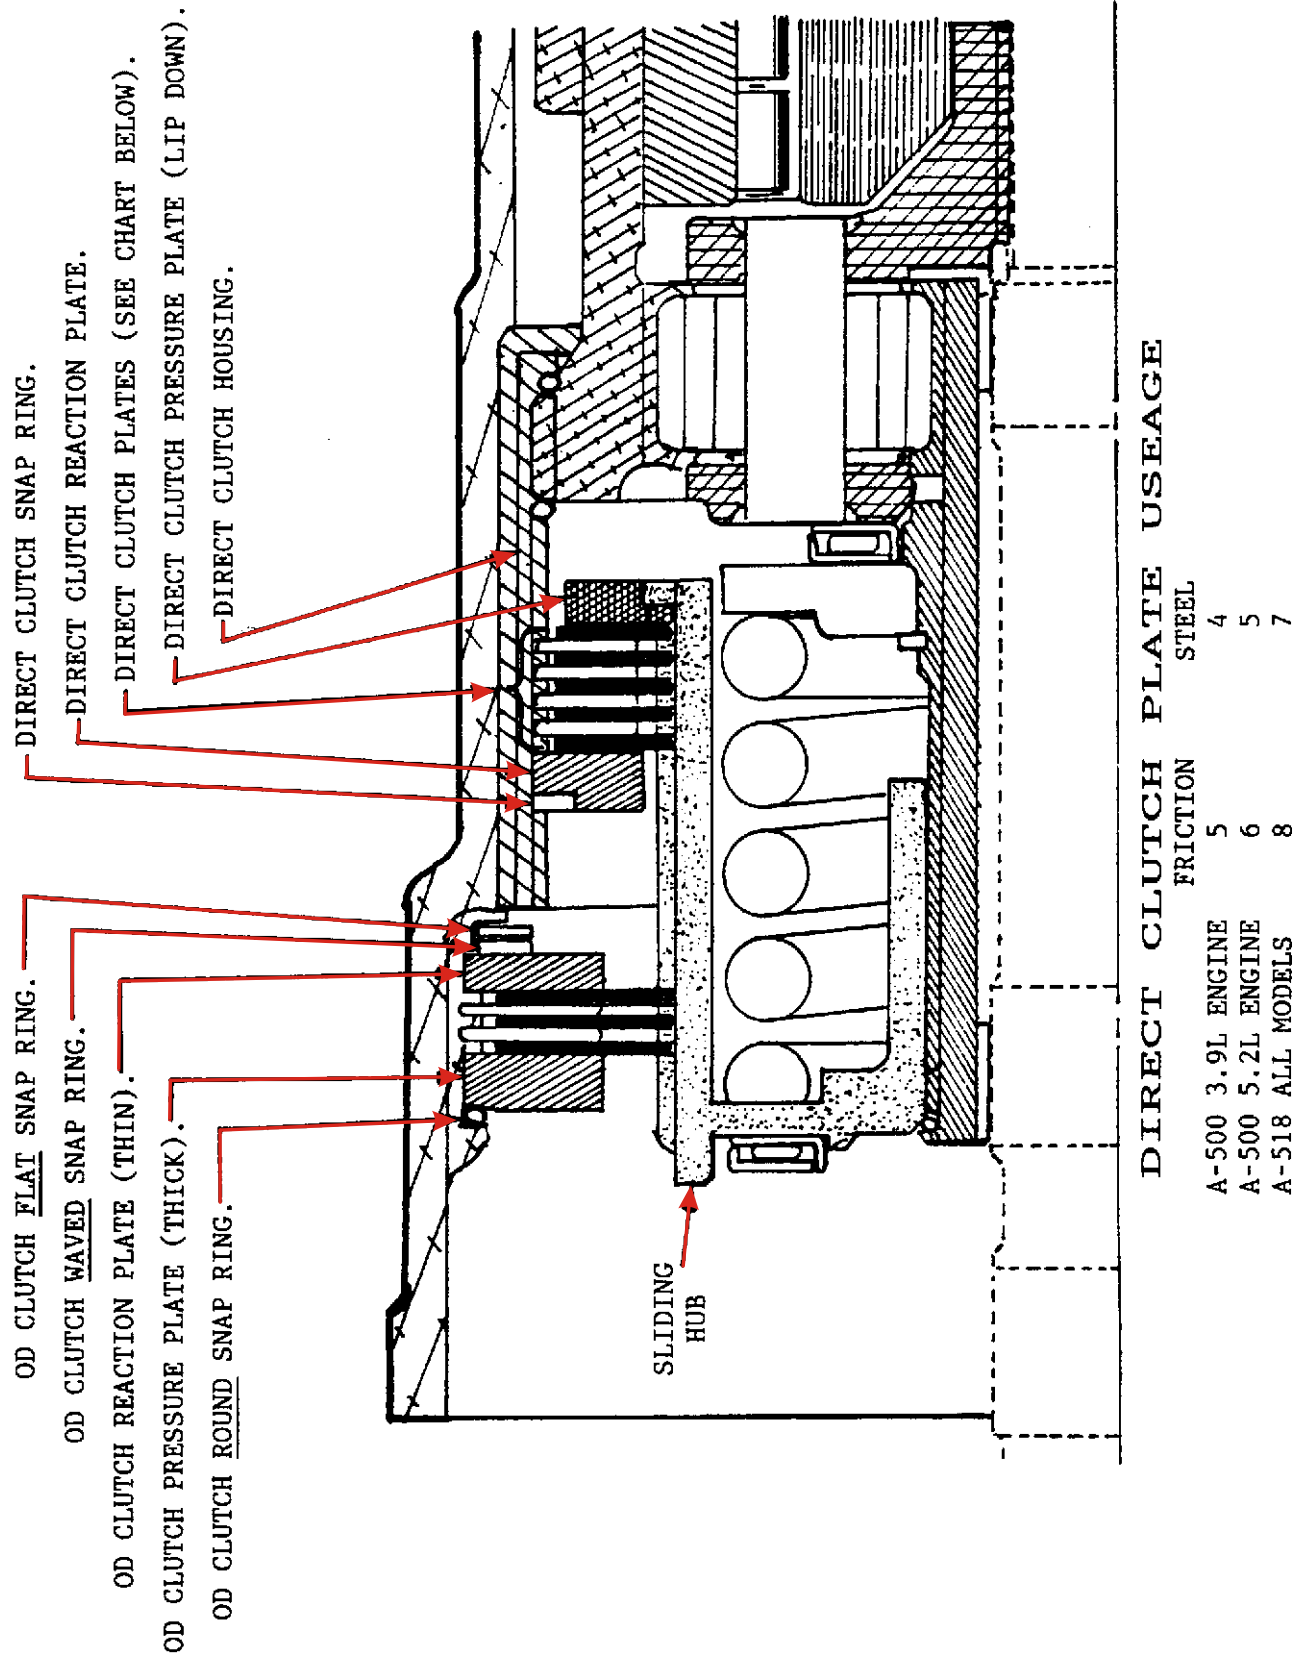

Figure 1
1. Install direct clutch pressure plate on sliding hub with **INSIDE LIP DOWN**, as shown in Figure 1.
2. Install direct clutch plates beginning with a friction plate (See Figure 1) The number of direct clutch friction and steel plates depends on the engine size. See chart below.
3. Install direct clutch reaction plate in direct clutch housing with **OUTSIDE LIP UP**, as shown in Figure 1.
5. Install the **FLAT** overdrive clutch snap ring into the groove in extension housing, as shown in Figure 1.
6. Install the **WAVED** overdrive clutch snap ring in the same groove on top of the flat snap ring, as shown in Figure 1.
7. Install overdrive clutch reaction plate (Thinnest) on top of the snap rings, as shown in Figure 1.
8. Install overdrive clutch plates beginning with a friction plate, and alternate with steel plate, as shown in Figure 1. and 2 steel plates on all models.
9. Install overdrive clutch pressure plate (Thickest) on top of the overdrive plates, as shown in Figure 1.
10. Install the **ROUND** wire retaining ring in groove in the extension housing, as shown in Figure 1, to retain the overdrive pack in position for assembly. Overdrive clutch requires 3 friction